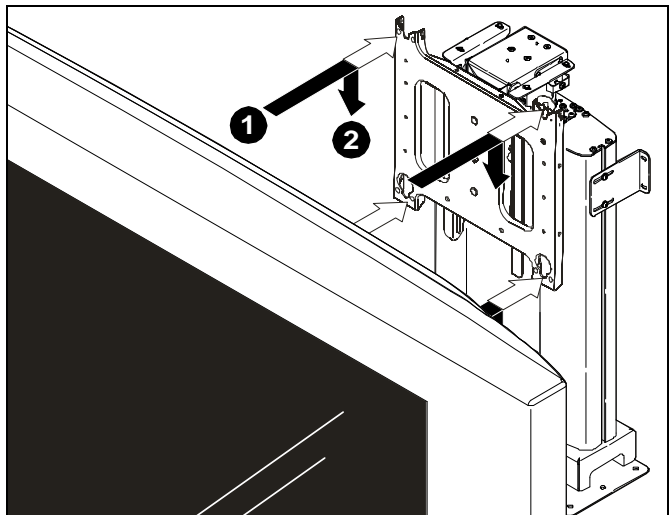
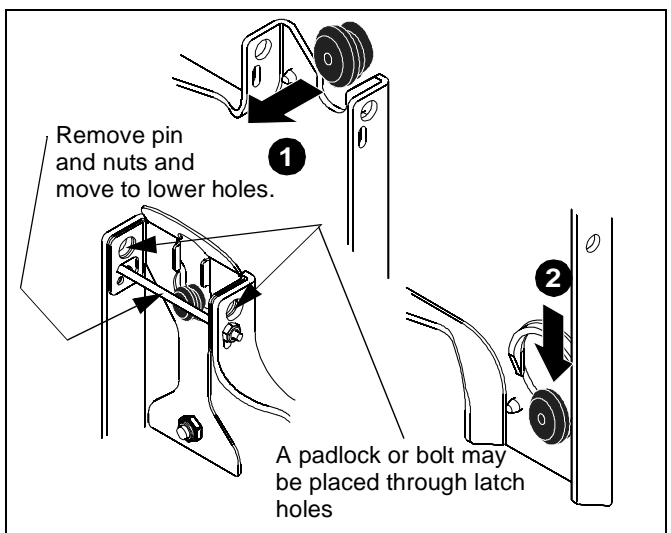

Figure 9
Figure 10
1. While supporting both sides of display, align four mounting buttons on display or interface bracket with four mounting holes in faceplate. (See Figure 9) and (See Figure 10)
2. Lower display into place listening for audible "click" to ensure recessed area of mounting buttons are properly seated in lower area of mounting holes and "click lock" mechanism has engaged. (See Figure 9) and (See Figure 10)
NOTE: Holes are provided in the faceplate for use with a padlock or similar locking device, if desired. In addition, the pin and nut may be removed from the upper holes and moved to the lower holes for use as a more permanent locking device. (See Figure 10)